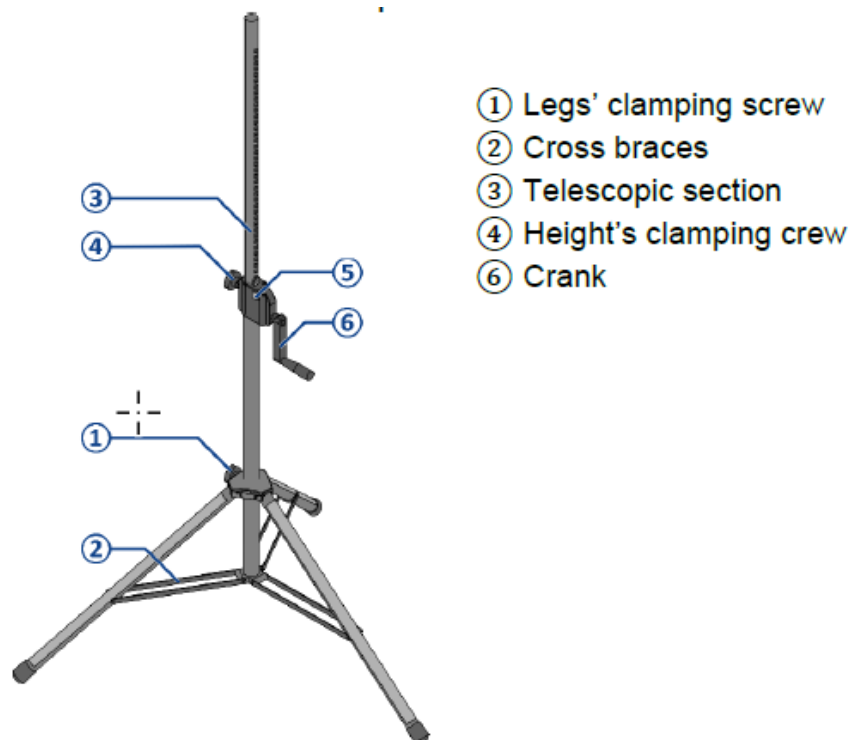

Figure 58. Tripod.
1. Open and secure the tripod — Figure 58
View CO-160a Figure 58 — TP-1 tripod
4. Raise and lock the tripod — Figure 58
- Loosen height clamping screw ④. Hold button ⑤ while turning crank ⑥ to raise telescopic section ③ to the height in the table below.
- Release button ⑤ and continue cranking until the safety pin clicks into place.
- Tighten height clamping screw ④.